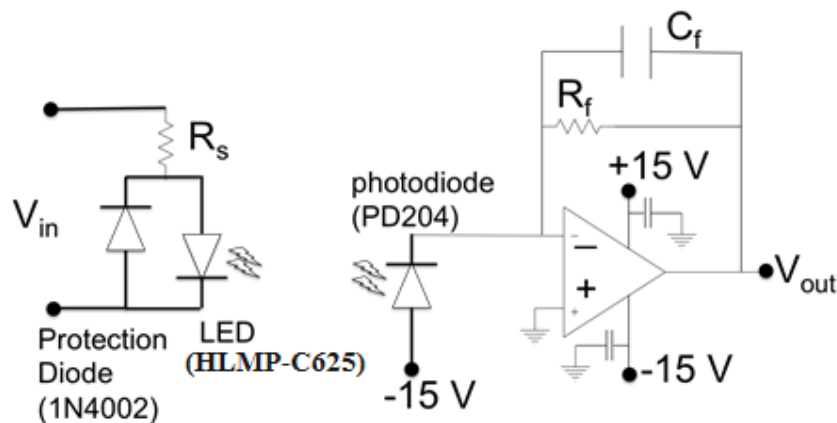

Figure 9: Optical communication link. Left: LED emitter circuit, Right: Photodetector circuit
Question 3	<p>Optical Communication Link</p> <ol style="list-style-type: none"> <li>Assume we have an HLMP-C625 LED being run with a current of 20 mA as in Fig. 9 (left). Use the typical value of luminous intensity at 20 mA (See the LED datasheet on the course website to find the typical luminous intensity). Compute the intensity <math>N</math> (in units of <math>\text{mW/cm}^2</math>) incident on a detector place <math>R</math> cm away from the center of the transmitted light beam. Plot the intensity on the photodiode as a function of <math>R</math> for reasonable distances of 1-50 cm.</li> <li>Plot the expected output voltage from the optical receiver as a function of the distance between the detector and the LED. Remember to recalculate the sensitivity of the detector for the wavelength of light from the LED, which is 650 nm for the ones we use in lab.</li> <li>To drive the transmitter, the function generator will be adjusted to produce a square wave with a high level of 10 V (unloaded) and a low level of 0 V. The high-level should give 20 mA forward current in the LED, and the low level should give 0 mA. Find the value of the series resistor <math>R_S</math> that gives the correct current. The data sheet lists the LED forward voltage drop at 20 mA to be 1.9 V (instead of 0.6 V for silicon diodes). In addition, do not forget to model the function generator as an ideal voltage supply with a series output impedance of <math>50 \Omega</math>, which is the true output impedance regardless of the “impedance setting” on the function generator.</li> </ol>
Step 3	<p>LED emitter</p> <ol style="list-style-type: none"> <li>Set up a light emitting diode type HLMP-C625 as the transmitter on a separate small circuit board according to the schematic in Fig. 9. You will eventually drive the input voltage with the function generator (See step 3b.) Be sure to protect the LED with a series resistance that prevents the forward current exceeding 20 mA. HINT: You calculated the required resistance in the Lab prep. Also, connect a protection diode in parallel with the LED but with opposite polarity. This will prevent you from accidentally running the LED at with a large negative bias voltage, causing it to break down.</li> <li>Before connecting it to the LED transmitter circuit, set up the function generator to produced 1 kHz square waves with the upper voltage level at 10V and the bottom voltage at 0V. You can accomplish this by using the DC offset setting of the function generator. Now connect the function generator output to the LED transmitter circuit. Can you see the LED turn on?</li> </ol>